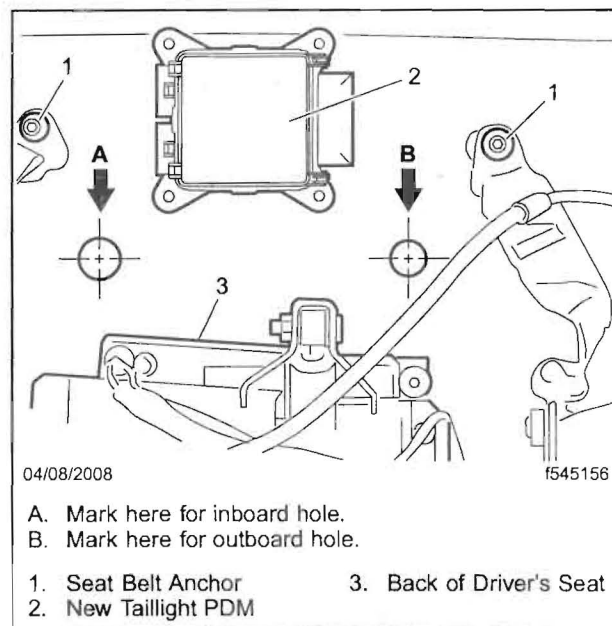

Fig. 5, View Looking Down on Cab Deck
2. Place a mark on the floor about 3 inches (76 mm) to the left and right of the new PDM. See Fig. 5.